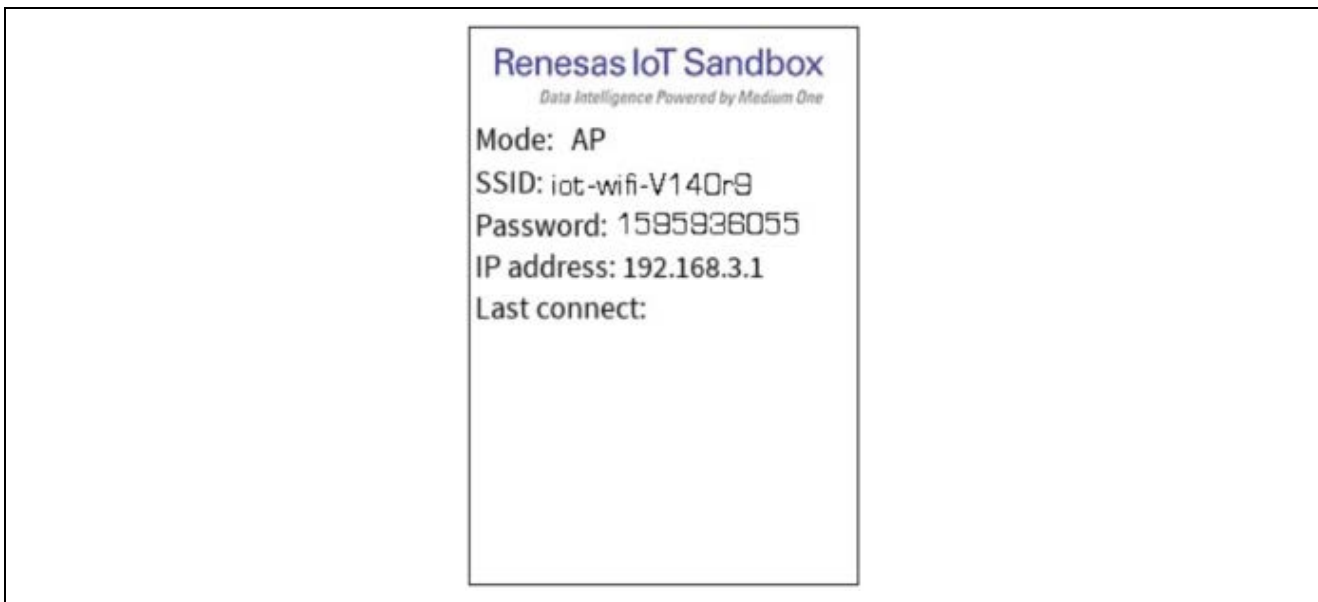

Figure 5 Access point mode
- If this is your first time provisioning the board with a WiFi adapter, you will see the picture as shown in Figure 5. Connect your computer to the board’s WiFi access point using the WiFi on your computer. The SSID and password is printed on the SKS7 display. This is a WiFi Access Point served by the board and is a unique SSID. **Note: Keep a copy of your activation email readily available. Once connected to the board’s WiFi Access Point, you will not have internet access on your computer.**